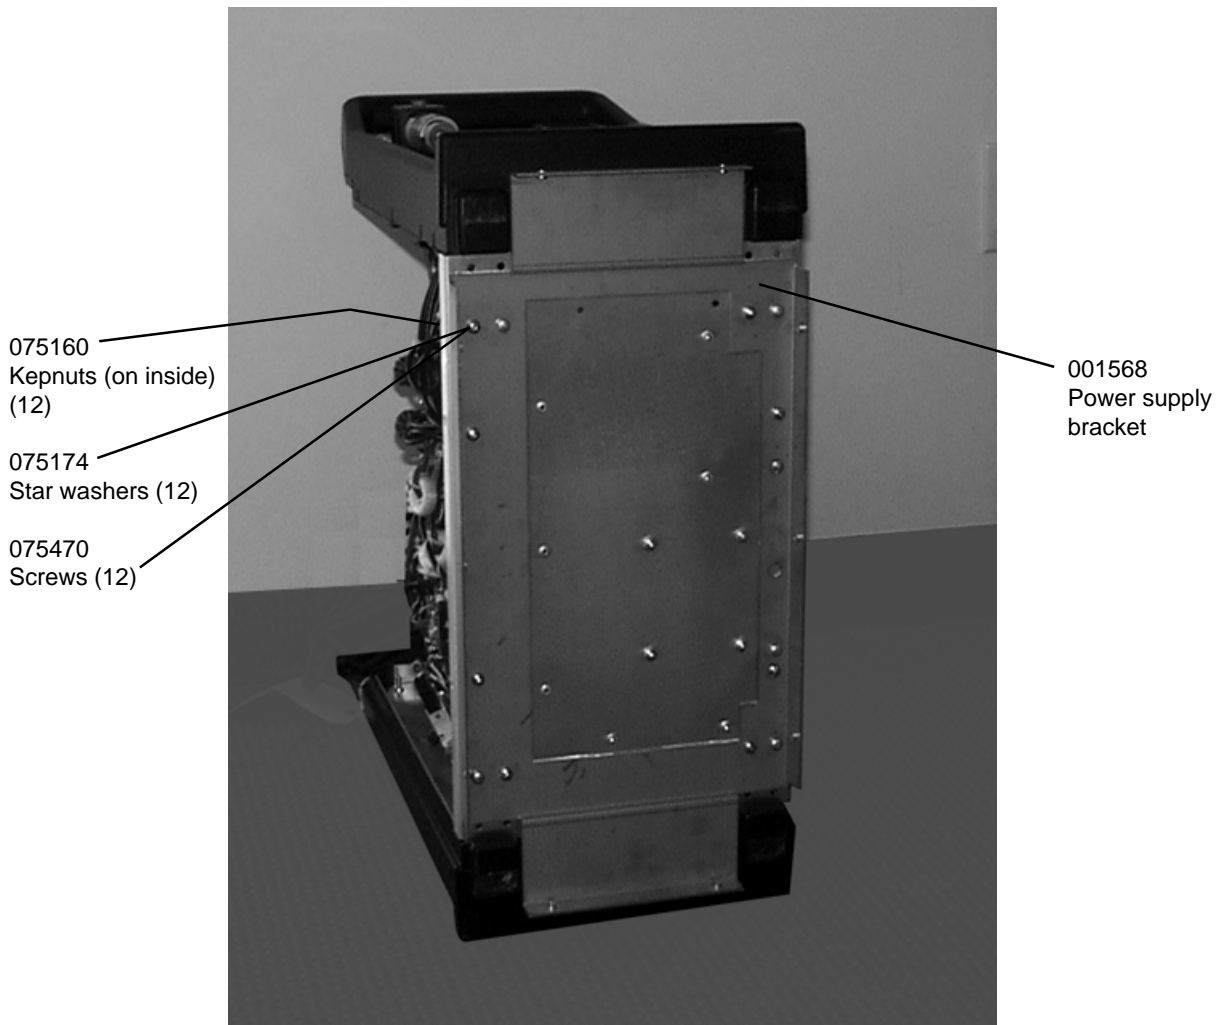

Figure 2-5 Attaching 600V Power Supply Bracket to Powermax Chassis
5. Carefully tilt Powermax over onto its front handle as shown in Figure 2-5.
6. Place the 001568 power supply bracket against the bottom of the power supply as shown in Figure 2-5 and fasten with the 075470 10-32 screws, 075174 star washers and 075160 kepnuts in 12 locations.